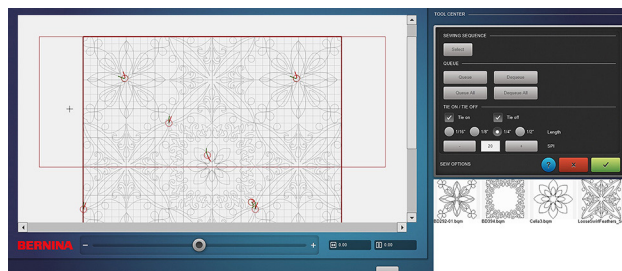

Fig. 82
-  Select Sew Options, then Dequeue All. All designs will become grayed out (Fig. 82).